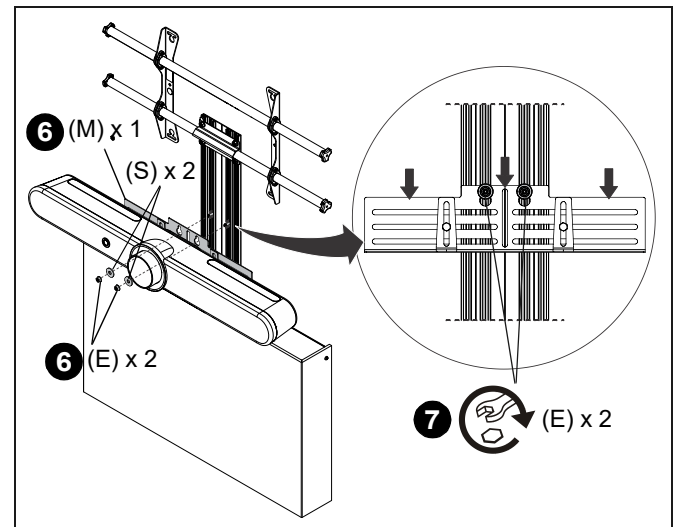

Figure 19
7. Secure the camera using two M8 washers (S) and two M8 flange nuts (E). (See Figure 19)